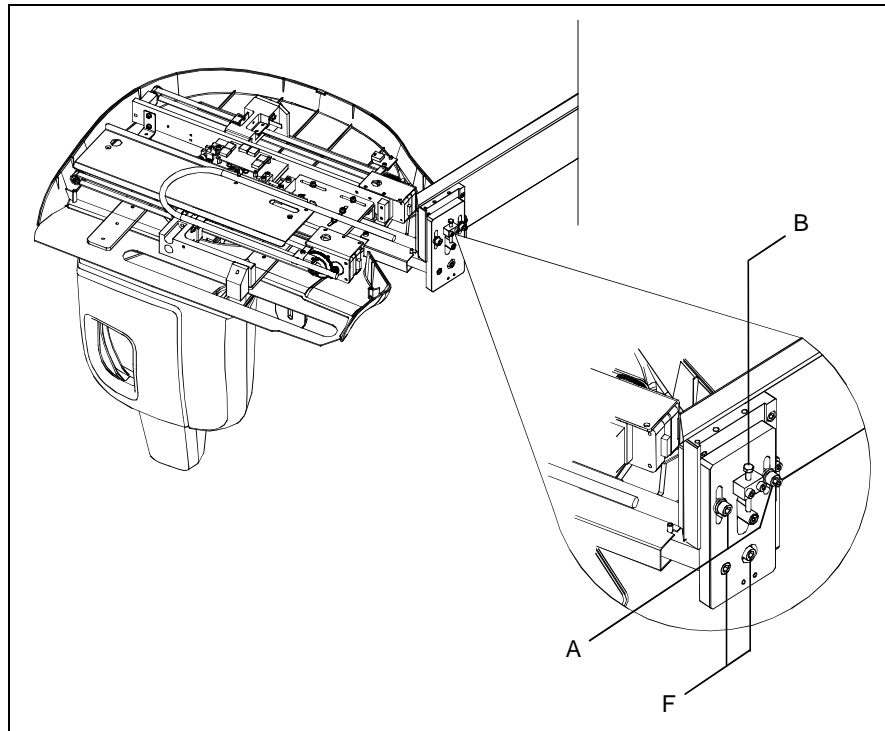
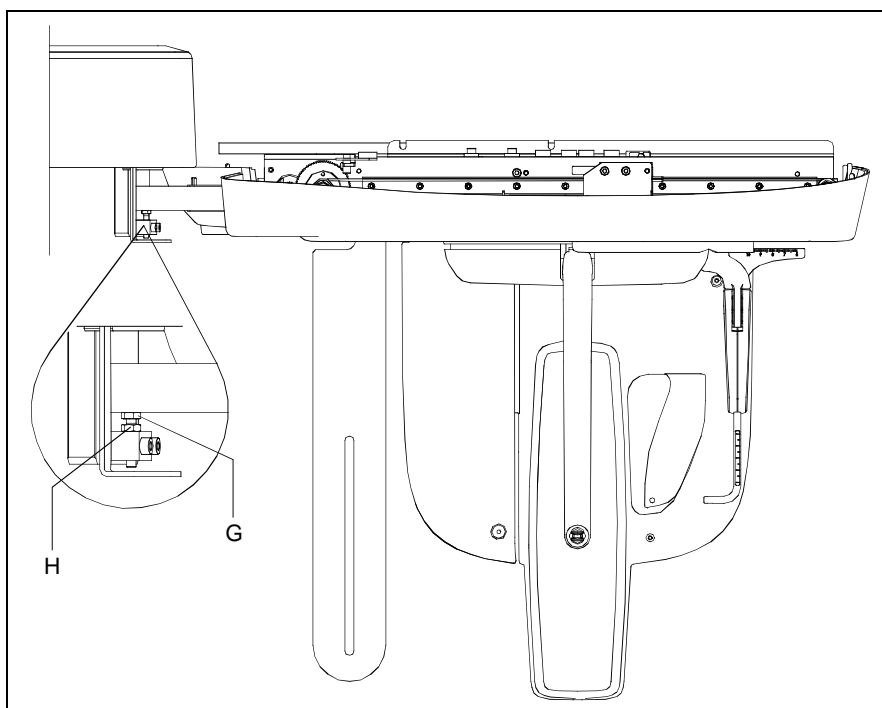

Figure 9-22
Figure 9-23
- 15.** If it will be necessary to change the height of the CEPH arm, loose the two screws "A" (Figure 9-22), and acting on the screw "B" adjust the height of the Ceph group. Repeat the exposure until the vertical alignment is reached. Tighten the loosened screws "A".
- 17.** To adjust the vertical alignment between the two rings, loose the two screws "F" (Figure 9-22) and adjust the position of the arm acting on screw "G" (Figure 9-23). Once the aligned position has been reached (test exposures are required), tighten bolt "H" (Figure 9-23) and tighten screws "F".